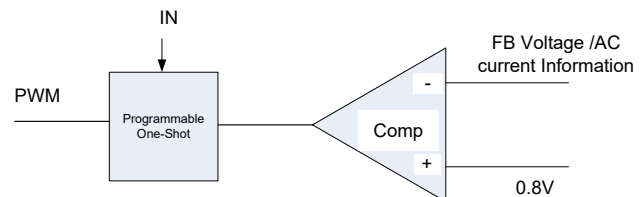

Figure 2. Simplified Control Schematic of AOZ2260AQI-10
The simplified control schematic is shown in Figure 2. The high-side switch on-time is determined solely by a one-shot whose pulse width can be programmed by one external resistor and is inversely proportional to input voltage (IN). The one-shot is triggered when the internal 0.8V is higher than the combined information of FB voltage and the AC current information of inductor, which is processed and obtained through the sensed lower-side MOSFET current once it turns-on. The added AC current information can help the stability of constant-on time control even with pure ceramic output capacitors, which have very low ESR. The AC current information has no DC offset, which does not cause offset with output load change, which is fundamentally different from other V² constant-on time control schemes.